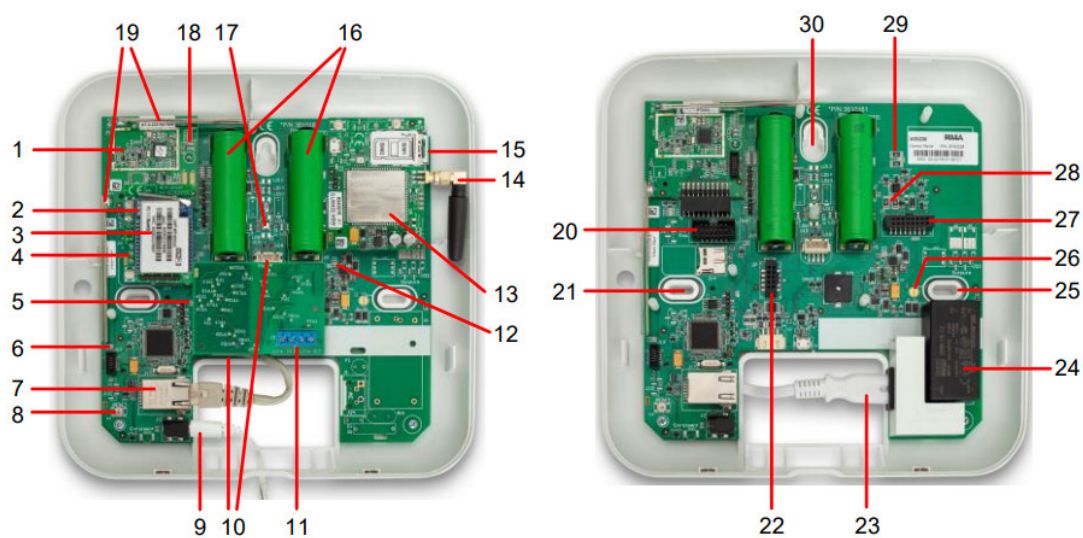

Figure 1. The control panel (VCD model (left), VCA model (right))
1. Connect the PSTN module to its connector (see no. 22 in Figure 1, on page 7).
1. Connect the cellular module to its connector (see no. 27 in Figure 1, on page 7).
1. Connect the wi-fi module to its connector (see no. 20 in Figure 1, on page 7).